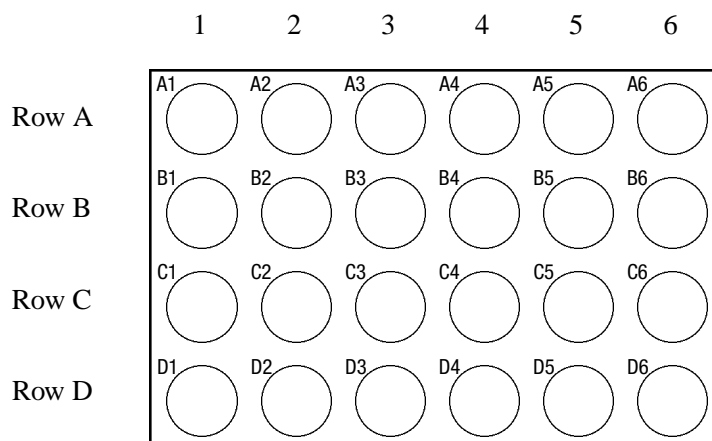

Figure 3.
1. Place the 24-well plate on top of a piece of white paper so that there are 6 wells across (columns) and 4 wells down (rows). Refer to Figure 3 to see how the wells are arranged. Note that each well is identified by a unique combination of a letter and a number, where the letter refers to a horizontal row and the number to a vertical column.